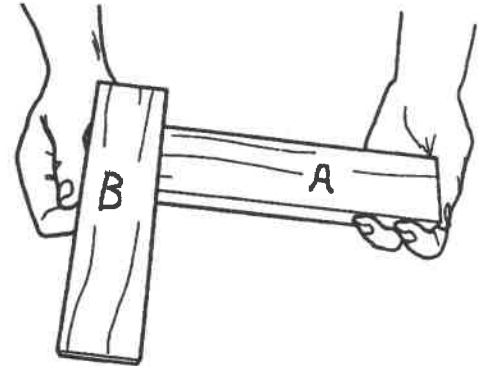

Fig. C-17
22. With the matching sides of each workpiece facing up, insert the tenon into the mortise to complete the joint, shown in Fig. C-17.